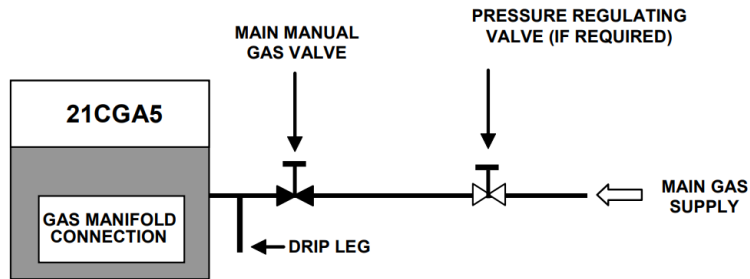

Figure 3-4
- a) Refer to Figure 3-4 for the recommended layout of the gas supply lines.
- d) Install main manual shut off valve between the gas supply and the appliance. See Figure 3-4. This main manual shut off valve is called the "Main Manual Gas Valve."
- e) Install a sediment trap (drip leg) in gas supply line. See Figure 3-4.